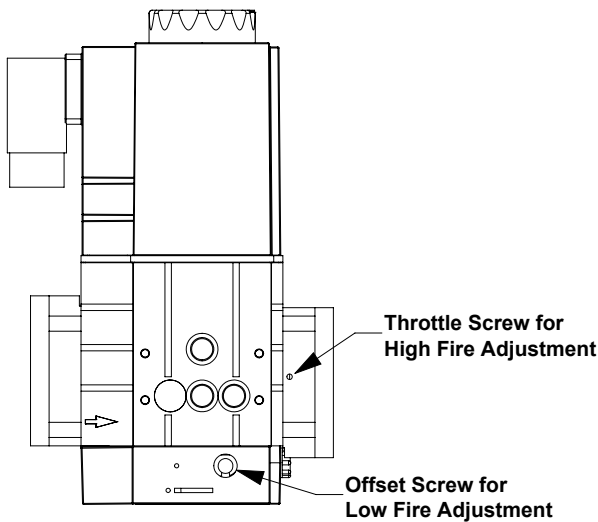

Figure 30: Gas Valve Air/Fuel Adjustment
- d. If high fire O₂ is too high (CO₂ is too low), decrease O₂ (increase CO₂) by turning the throttle screw towards the "Plus (+)" sign in 1/4 turn increments and checking the O₂ (or CO₂) after each adjustment. Refer to Figure 30 for location of throttle screw. Verify CO air free is less than 200 ppm.